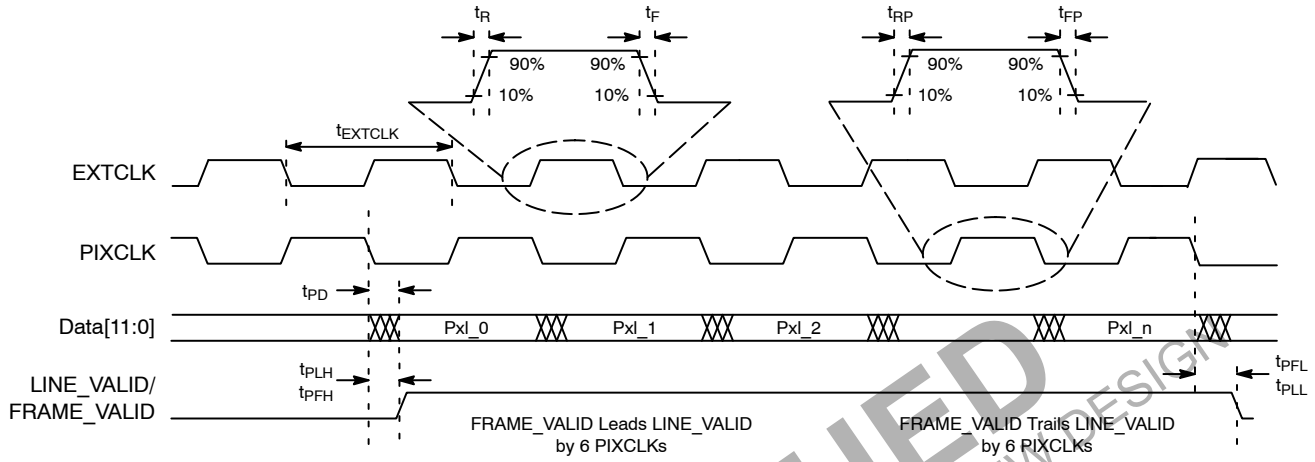

Figure 14. I/O Timing Diagram
See Figure 14 below and Table 7 on page 19 for I/O timing (AC) characteristics.